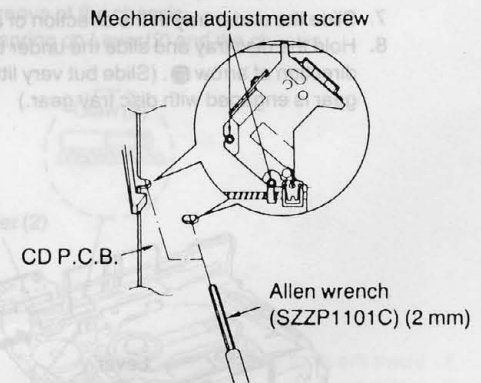

Fig. 4
4. Alternately adjust the two mechanical adjusting screws with the 2.0 mm allen wrench (SZZP1101C) until the RF signal amplitude variation on the oscilloscope is minimized. (Shown in Fig. 4)